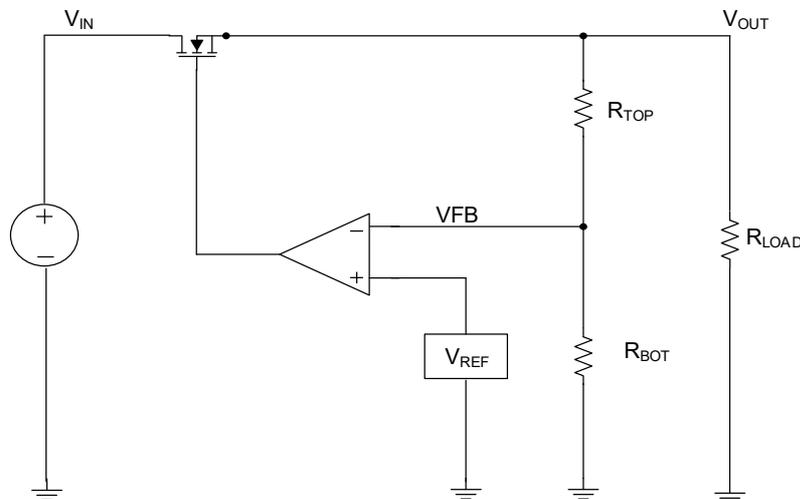

Figure 42. Simple NMOS LDO Regulator Block Diagram
Like the majority of LDOs with an NMOS pass transistor, the RAA214038 output voltage (V_{OUT}) regulation can be modeled with a voltage reference (V_{REF}), feedback (FB) resistors, error amplifier, and NMOS pass-transistor as shown in Figure 42.